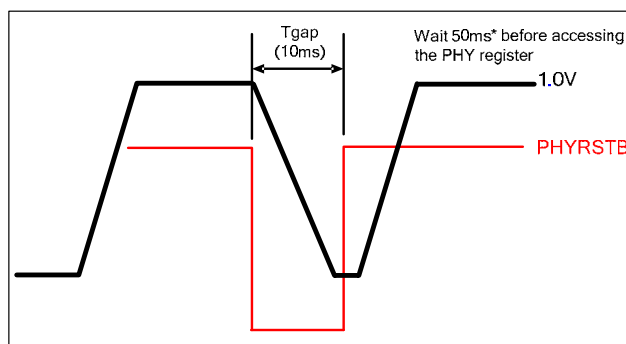

Figure 9. PHY Reset Timing
The RTL8211F(I)/RTL8211FD(I) has a PHYRSTB pin to reset the chip. For a complete PHY reset, this pin must be asserted low for at least 10ms (T_{gap} in Figure 9) for the internal regulator. Wait for at least 50ms* (for internal circuits settling time) before accessing the PHY register. All registers will return to default values after a hardware reset.